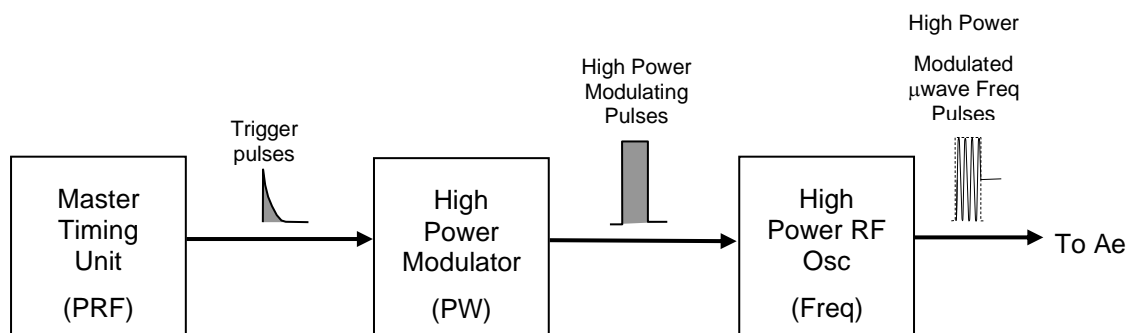

Figure 1 – High Power Oscillator Transmitter
4. Refer to Figure 1.
5. Refer to Figure 1.